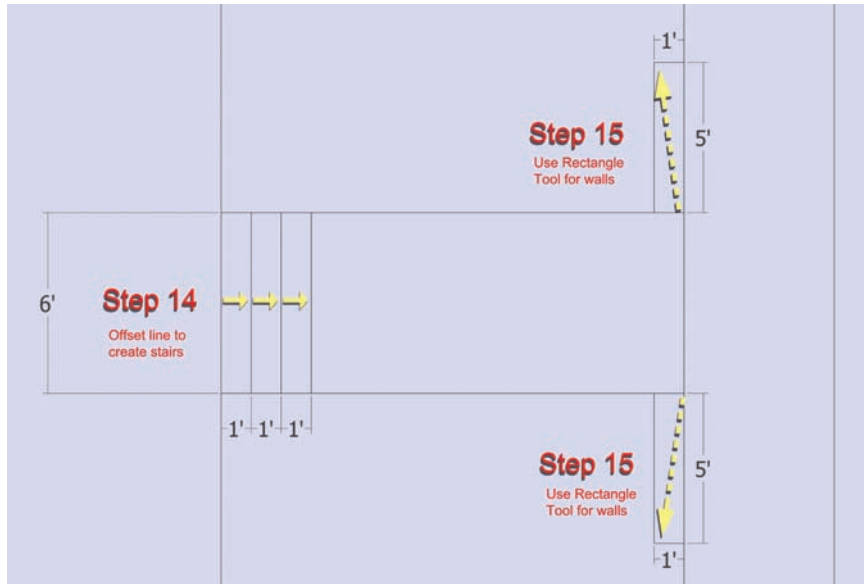

Fig. 6-10: Defining the entry with steps and walls.
14. Copy and paste edges to define stairs adjacent to the building footprint (Fig. 6-10).
15. Draft the entry walls (Fig. 6-10).